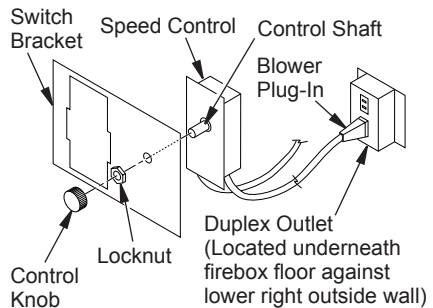

Figure 27 - Attaching Speed Control to Firebox
5. Mount speed control box to switch bracket by placing the plastic control shaft forward through the round opening in the switch bracket (see Figure 27).
- Mount the speed control box against the mounting plate provided in the lower fireplace cavity by placing the plastic control shaft forward through the round hole (see Figure 27, page 19).
- While supporting speed control, secure control shaft with lock nut by pushing and turning lock nut with pliers clockwise until it is tight against mounting plate. Place control knob provided on shaft (see Figure 27, page 19).